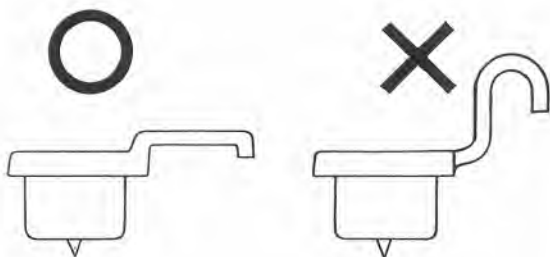

Fig. 26
- ❷ Never turn the "memo-gram" knob or touch the tonearm during automatic cycle. (Auto-start, auto-stop or change cycle) Wait until the tonearm has returned to the arm rest, or has descended to the record and resumed play.
- ❸ In the case of multiple play, be sure to use records of the same size.
- ❹ Use the cueing lever only for single play operation (play one record only).
- ❺ When using other headshells, make sure about the headshell configuration. (See Fig. 26.)